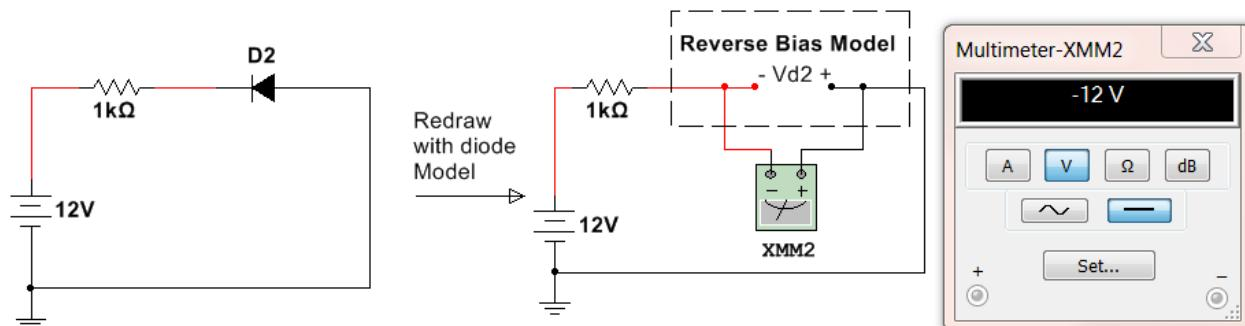

Figure 6.5: Circuit for Example 6.2
- $V_{D2} = -12$ V is verified in Multisim in Figure 6.5.